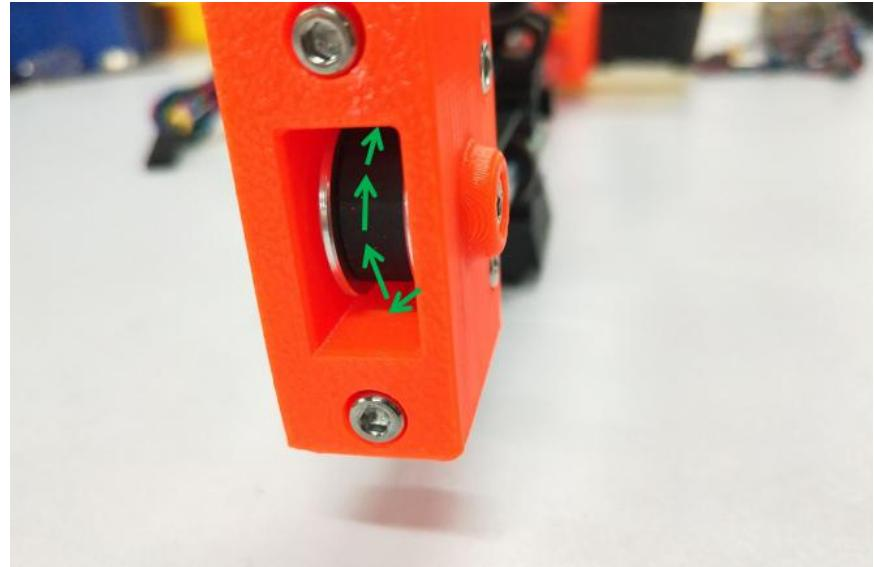
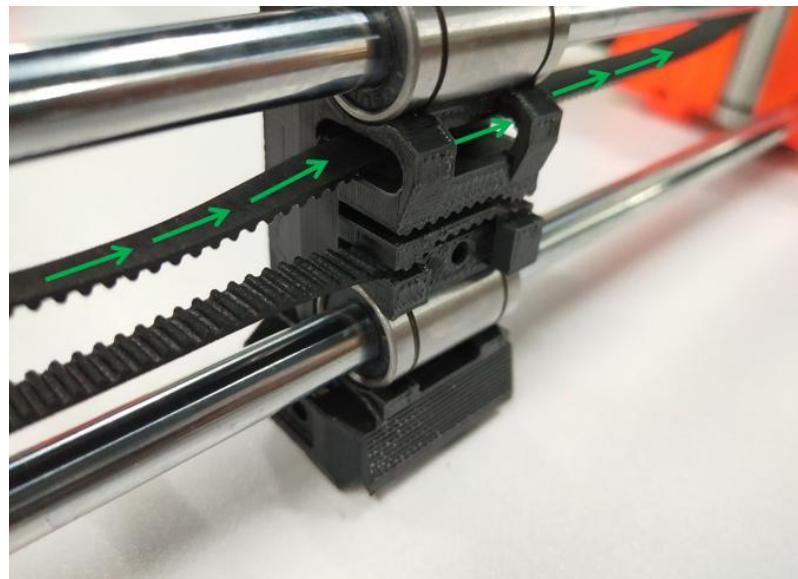

Figure 2.11.10
Figure 2.11.11
**Step 2-11-7:** As shown in Figure 2.11.10, pass the other end of the belt around the synchronization wheel in MINI-x-end, and then pass through the through hole of MINI-x-carriage in Figure 2.11.11.